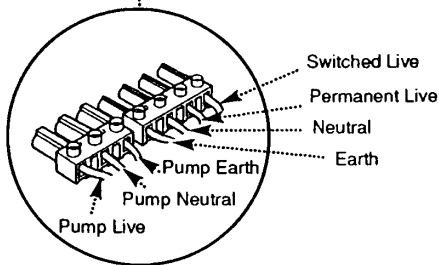

Fig. 77
4. The terminal strips may be removed by carefully pulling forward. Connect the supply cable to the terminal strip (Fig. 77).